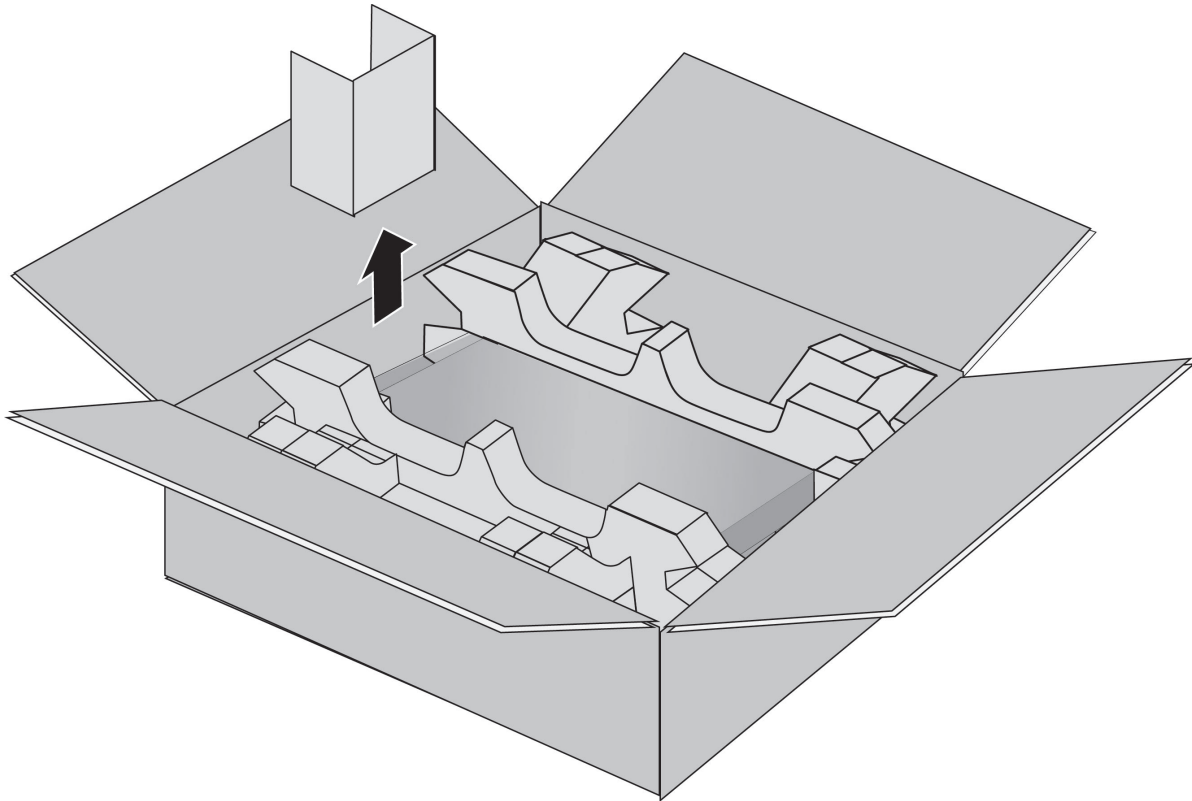

Figure 30. Removing the Shipping Box Partition
2. Remove the accessory box partition. Refer to Figure 30 on page 76.